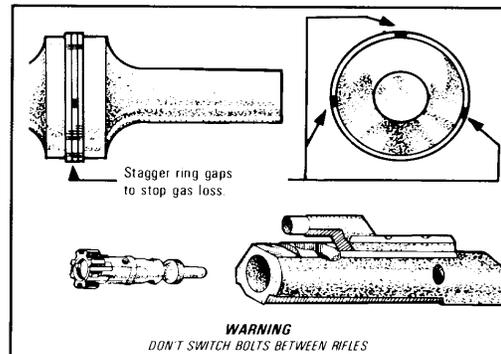

Figure 10-27. Placing the bolt in the carrier
- d. Slide the bolt into the carrier until the bolt cam pin hole in both the bolt carrier and the bolt are aligned (figure 10-27).